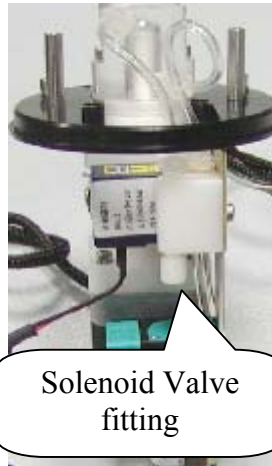

Fig. 38 Diluter
6. Remove the Preheater teflon tube on the Diluter Solenoid Valve by unscrewing the fitting (Fig. 38).